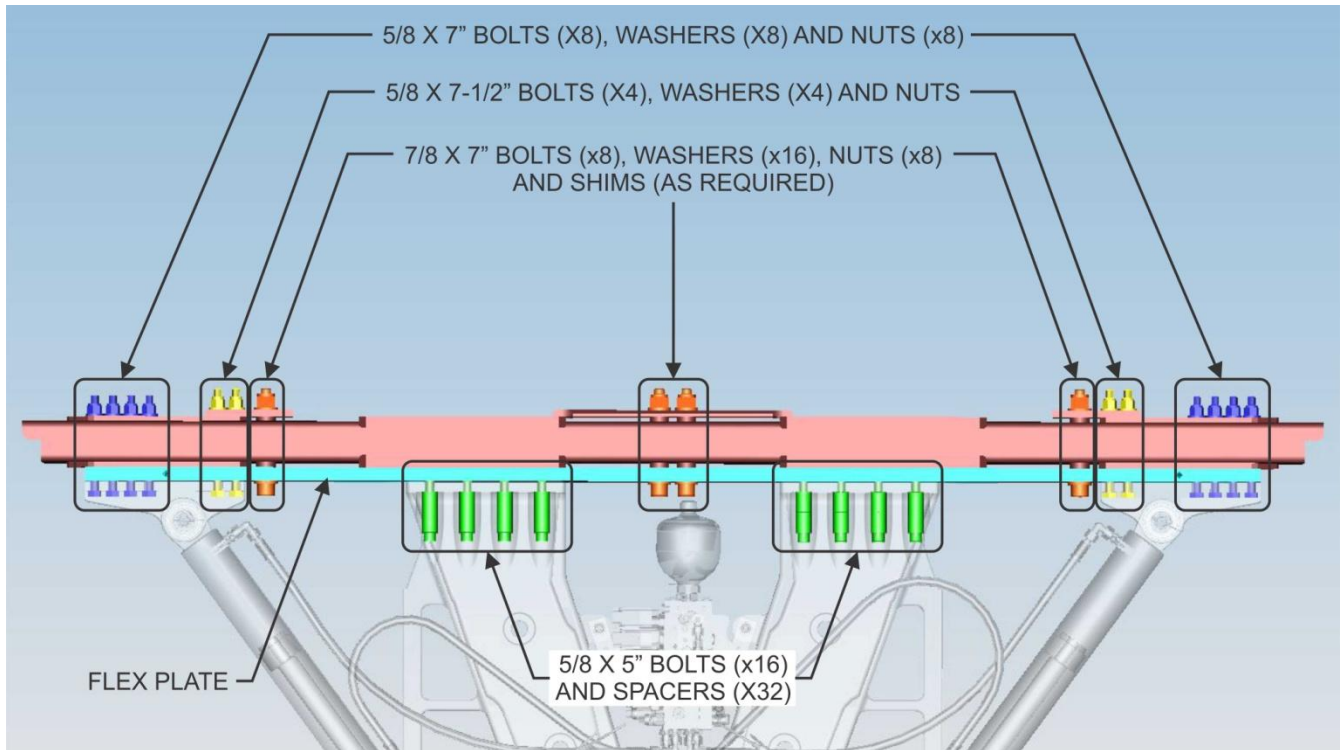

Figure 12: Flex Plate & Hardware (Portions of the Structure Removed for Clarity)
4. Secure the flex plate to the rear structure with the 7/8" X 7" bolts, 7/8" washers and 7/8" nuts, inserting the correct sized shims onto the other side of the flex plate between the flex plate and the structure. Only lightly tighten the 7/8" bolts at this time to a torque of 50 ft-lbs (Wet, with Loctite). See Figure 12.